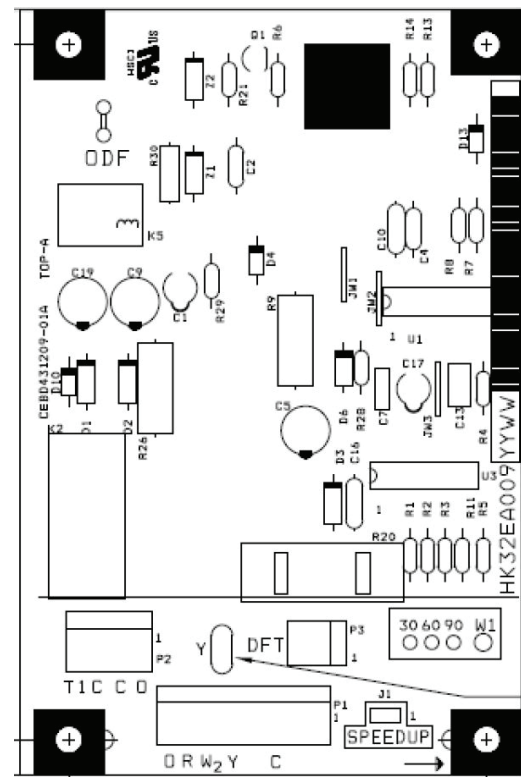

Fig. 13 – Defrost Control HK32EA009 for units with ECM Motor
2. Disconnect outdoor fan motor lead from OF2 on control board for units using PSC motors and from ODF terminal on units with ECM motor (see Fig. 13). Tape lead to prevent grounding.